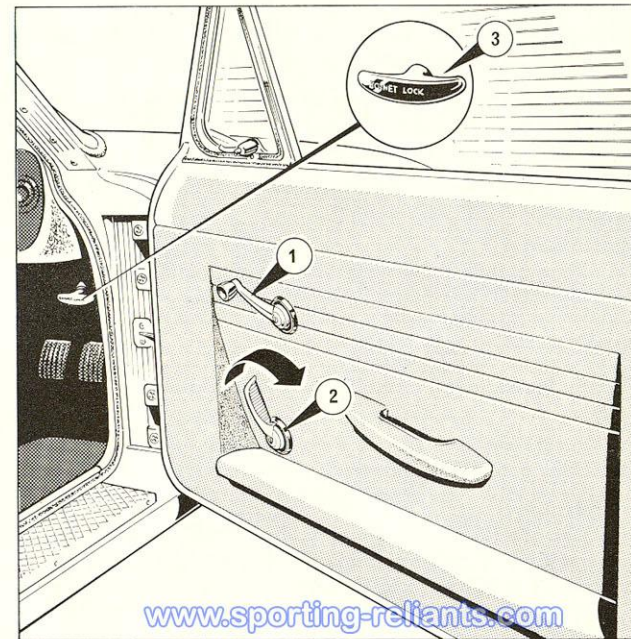

Figure 9 Door handles & bonnet lock
**CONTROLS ON DOOR AND BODY Figure 9**
**Bonnet release (3) Figure 9**